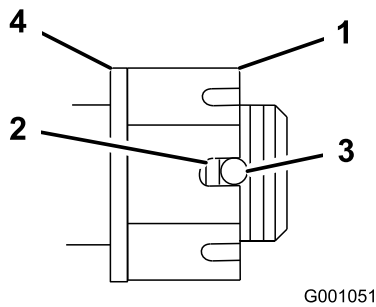

Figure 3
16. Torque the slotted nut to 125 ft-lb (170 N-m) (Figure 3).
17. Check the distance from bottom of slot in nut to inside edge of hole. Two threads or less should be showing (Figure 3).
19. Tighten the nut until the next set of slots line up with the hole in the shaft (Figure 3).